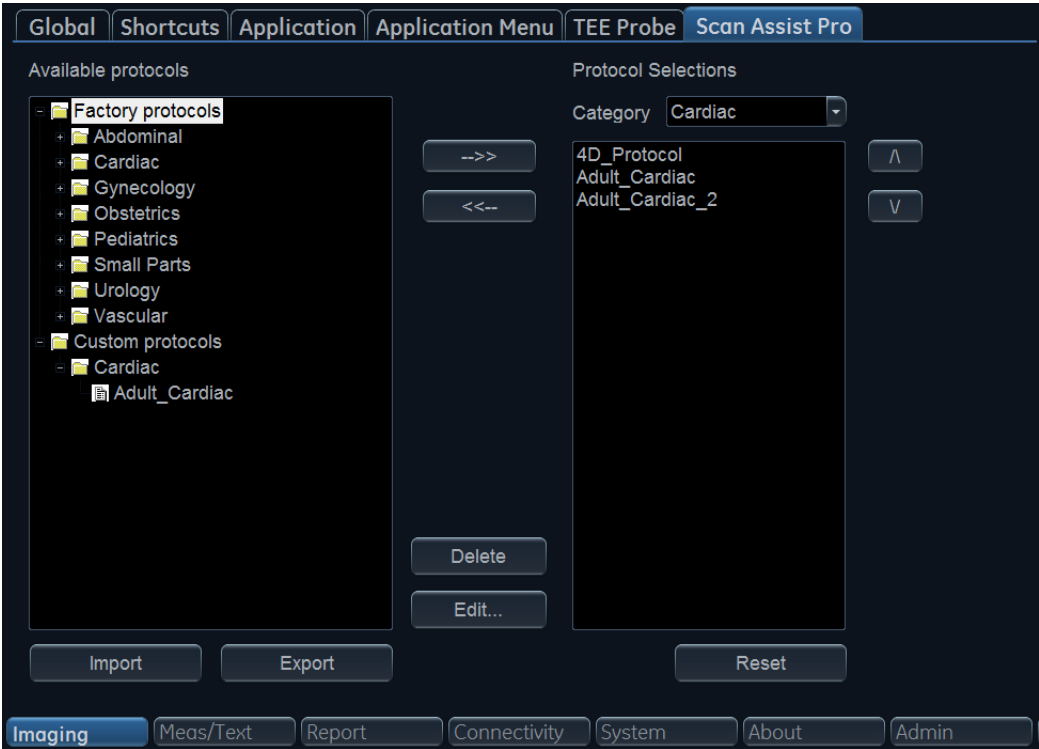

Figure 5-25. The Scan Assist Pro sheet
1. Select the desired **Category** under Protocol Selections on the right-hand side of the *Scan Assist Pro* sheet (Figure 5-25 on page 5-62).